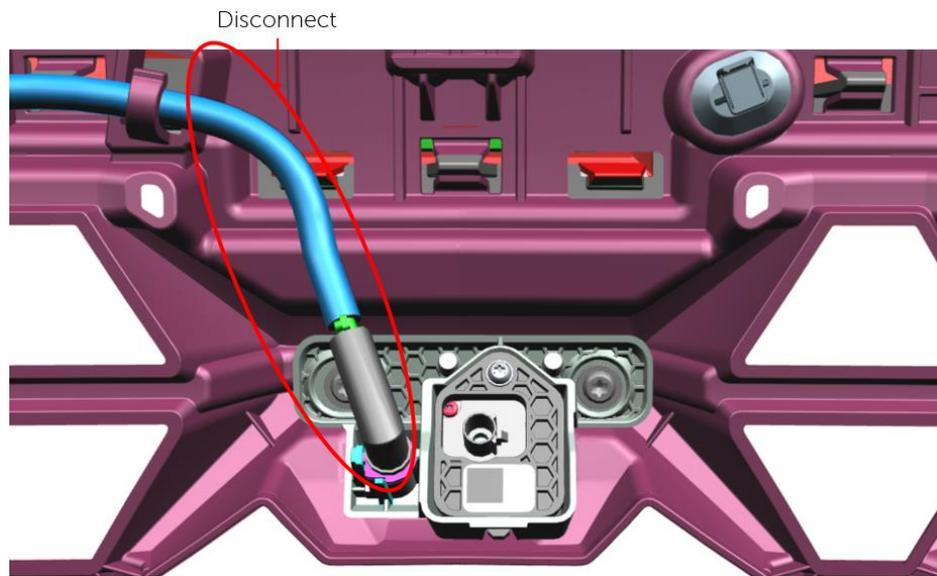

Figure 13
- A. Fully disconnect wiper fluid harness from grille fascia retention – this will re-route through AEV lower weldment. - Fig. 13